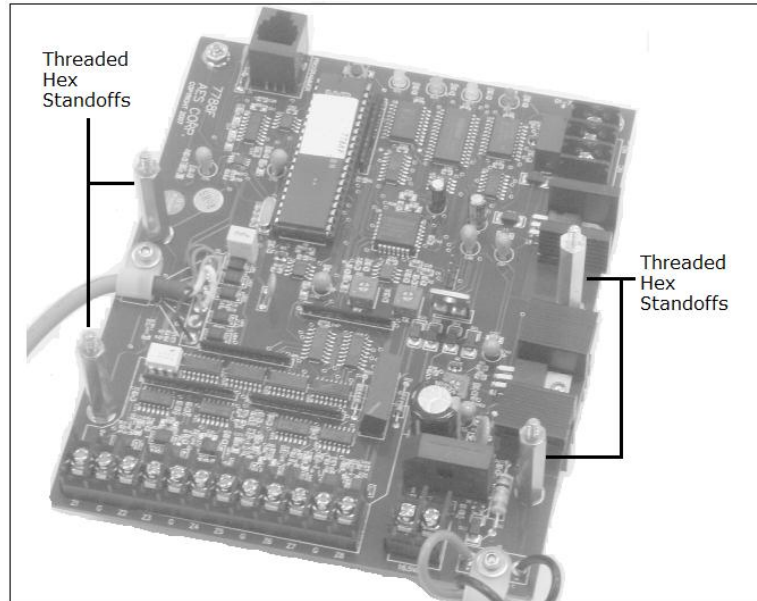

Figure 3.
- Install the 4 hex standoffs (P/N 09-2015). Place the standoffs on the threads exposed after removing the hex nuts. Do not over tighten the standoffs while installing. See Figure 3